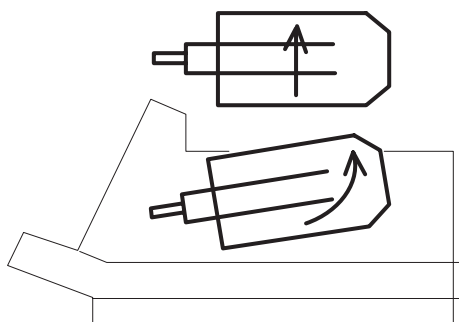

Figure 4-1. Removing the paddles
- Remove the paddles from their compartments as shown in Figure 4-1.